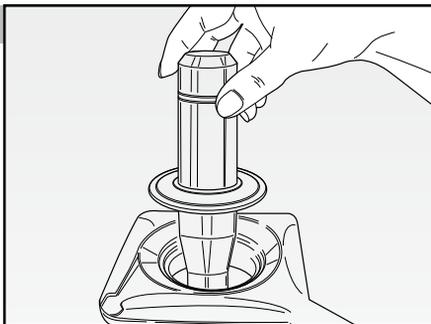

Fig. 5
- set the speed and the operating time using the apposite increase or decrease buttons (M). The selected parameters will be shown on the digital display (M).
- Press the ON-OFF button (L) that will become green and the appliance will run automatically. The digital display (M) will show the elapsed time.
- By selecting this function, it is possible to use also the pulse operation. Press and release the apposite "PULSE" button (P) to stop operation. For best results, keep pressed for a very short period (2/3 seconds).
- Press the ON-OFF button (L) to stop operation.
- During use, it is possible to add foods into the goblet, by lifting out the filler cap (A) after having switched off the appliance. Press inserted food using the apposite presser (R) - Fig. 5.
**Never remove the lid (B) during use or when the goblet is positioned on the motor body: a safety closing system locks the lid on the goblet. Remove the goblet from the motor body before lifting the lid to avoid damages to the safety lock.**
**Pay attention when removing the cap (A) to add and mix the hot ingredients. Steam may come out unexpectedly.**